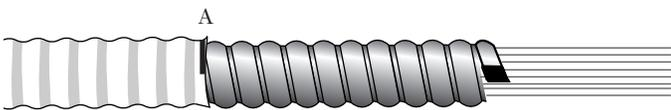

Figure 25
5.15 Remove the jacket from the interlocking armor back to the A mark (Figure 25).